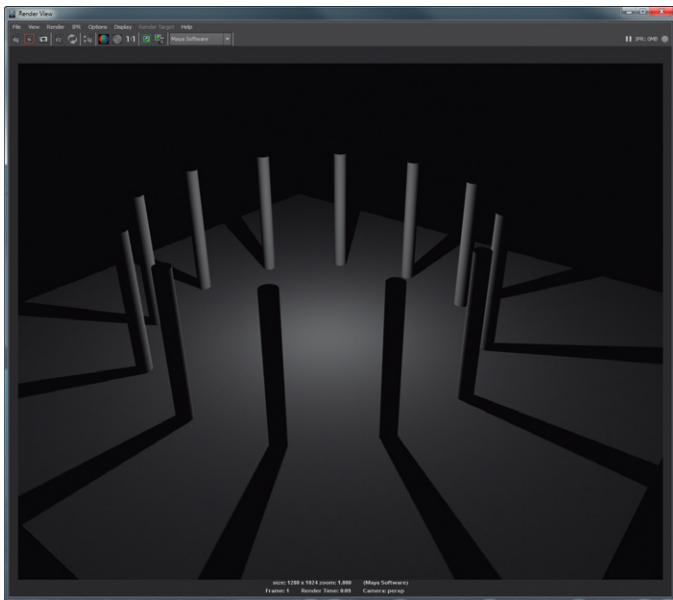

FIG 7.6 Same light with shadows activated. Note this is rendered at a higher resolution for print purposes.
Step 5: Activate Depth Map Shadows. To do this, select the Point Light and look to the Attribute Editor (remember Cntrl + A will toggle the Attribute Editor if it is not open). Look for the Shadows section and expand it. Click the Use Depth Map Shadows checkbox. Render (Fig. 7.6).